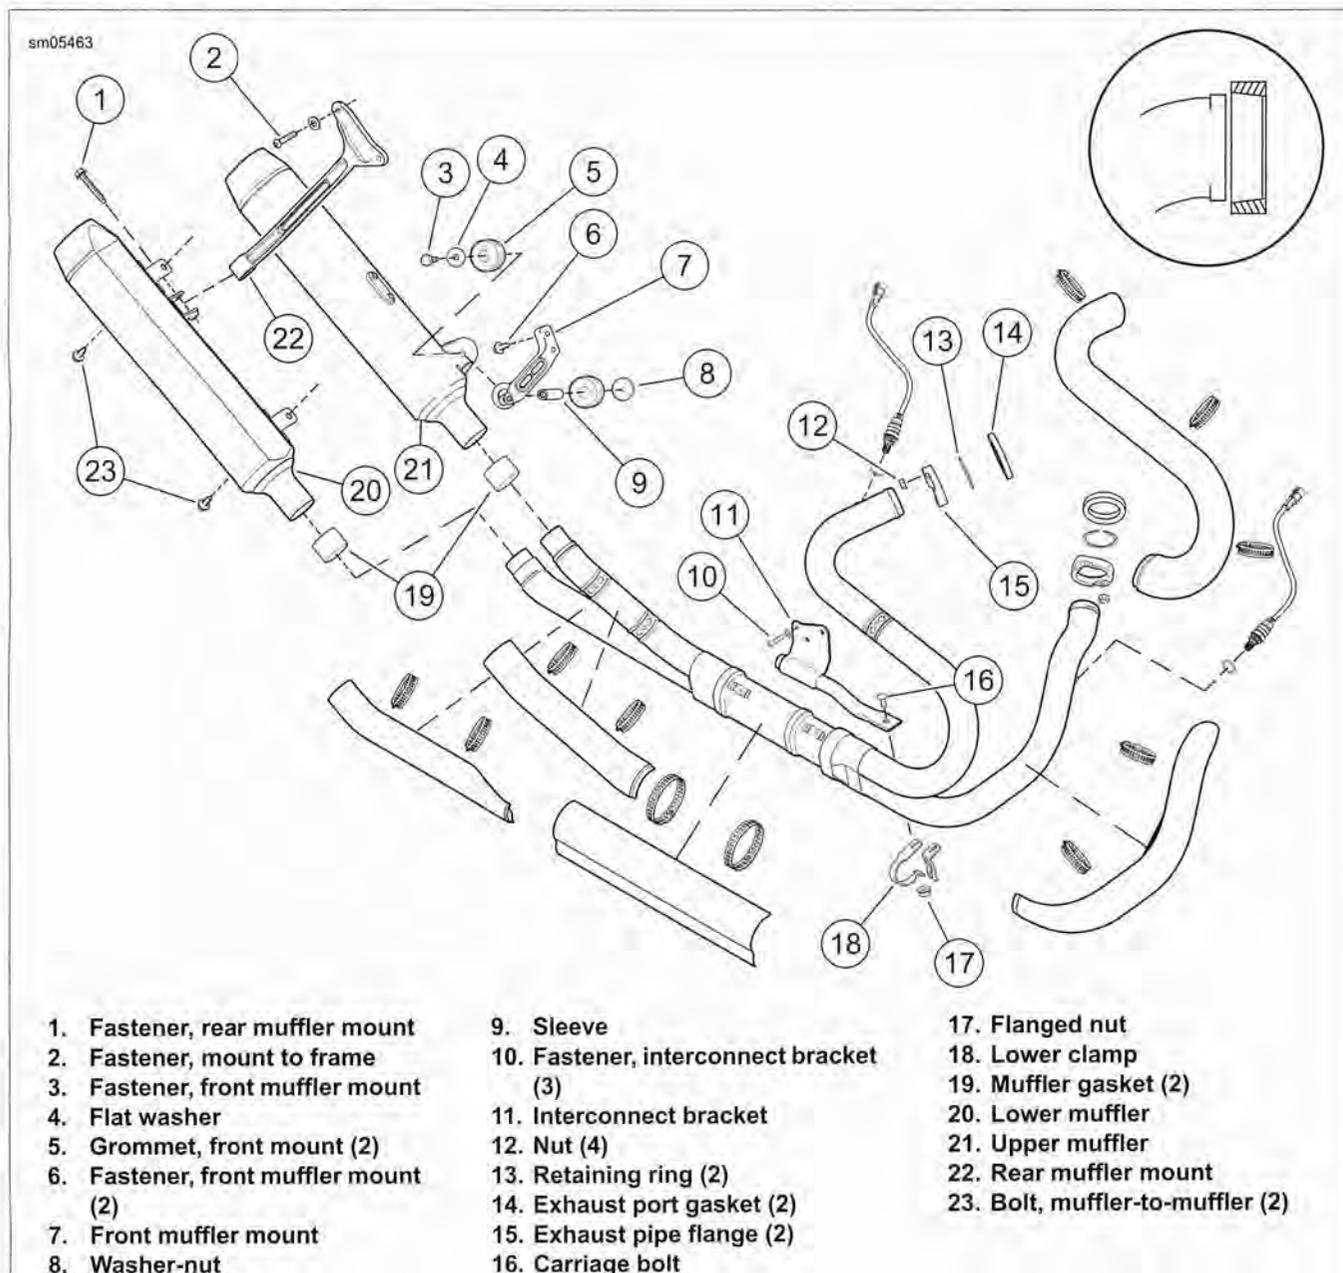

Figure 4-68. Exhaust System: XR 1200X
- See Figure 4-68. Remove forward muffler mount fastener (3) and washer-nut (8).
- Remove two bolts (23) fastening mufflers together.
- Slide upper muffler (21) back off header pipe to remove.
- Remove rear muffler mount fastener (1).
- Rotate lower muffler (20) counterclockwise to disengage from the rear mount (22) and slide back off header pipe to remove.
6. Remove mount grommets (5) and sleeve (9).
7. Inspect rear mount (22) and replace if damaged.
8. Inspect muffler seals (19) and replace if necessary:
3. See Figure 4-68. Loosen or remove head pipe heat shields to gain access to header pipe flange nuts (12).
4. Remove flange nuts (12) and pull flanges (15) off from studs.
5. Remove nut (17) and carriage bolt (16) from lower clamp (18).
7. Inspect exhaust port gasket (14) and replace if necessary.
- b. Push **new** gasket into place with the larger ID facing the header pipe, as shown in the inset in Figure 4-68.
8. Remove retainer rings (13) and flanges (15) if necessary.
9. If necessary, remove mount brackets (7, 22) and interconnect bracket (11).
1. See Figure 4-68. If removed, install flanges (15) and retaining rings (13).
2. If removed, install rear mount (22), front mount (7), and interconnect bracket (11).
- a. Tighten fasteners (2) to 15-20 ft-lbs (20.3-27.1 Nm).
- b. Tighten fasteners (6) to 45-50 ft-lbs (61.0-67.8 Nm).
- c. Tighten fasteners (10) to 30-33 ft-lbs (40.7-44.7 Nm).